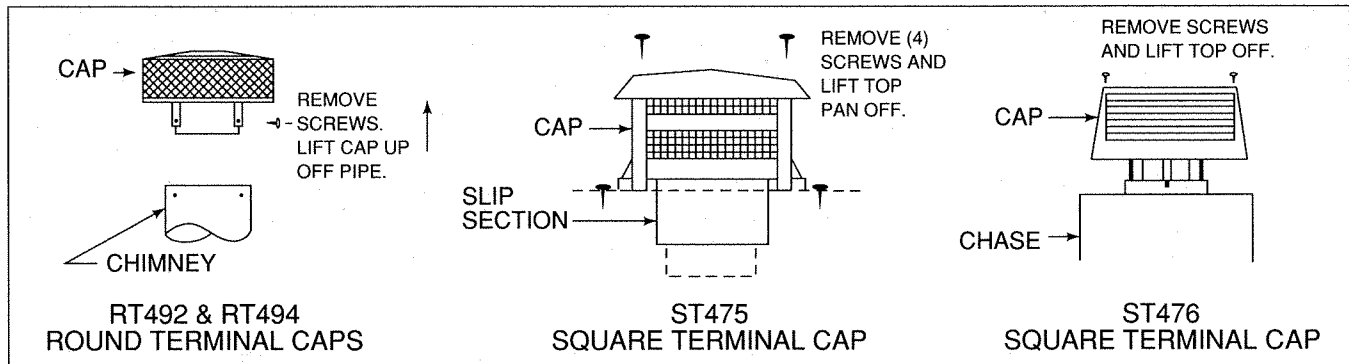

Figure 17
3. Remove the Terminal Cap. See Figure 17.